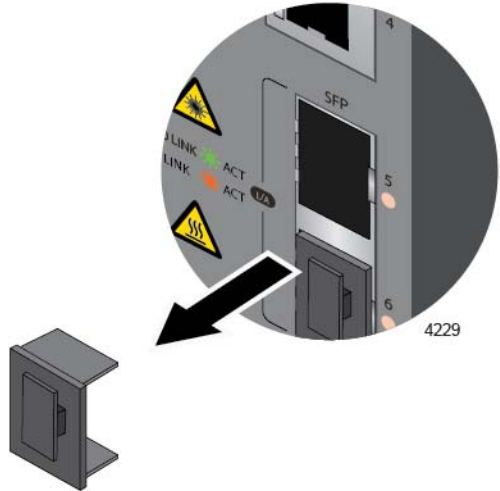

Figure 25. Removing the Dust Plug from an SFP Slot
1. Remove the dust plug from a transceiver slot. Figure 25 on page 75 shows the dust plug removed from slot 5.